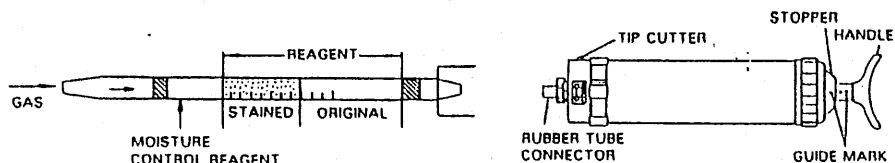

Fig. 1
- Insert the tube end securely according to the direction of printed arrow mark into the rubber tube connector as shown in Fig. 1.